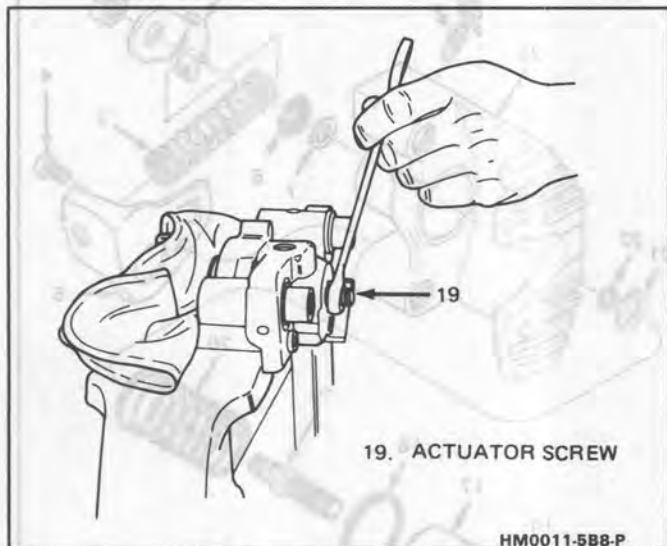

Fig. 11 Removing Piston
- Nut (1) and lever (2).
- Lever seal (6) and anti-friction washer (7).
4. Piston (17). Use a wrench to rotate actuator screw (19) to work piston out of caliper (25). Rotate in parking brake apply direction (Figure 11).
- Use clean shop towels to pad the interior of the caliper (25) during removal (Figure 11).
6. Actuator screw (19) by pressing on thread end (Figure 11).